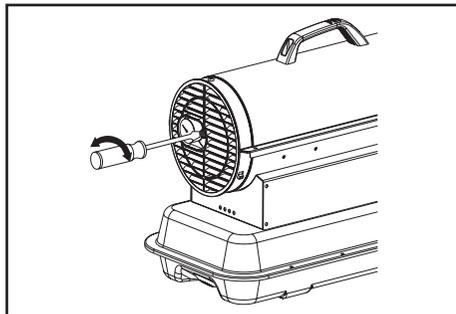

FIG.15
11.9 PUMP PRESSURE ADJUSTMENT – FIG.15